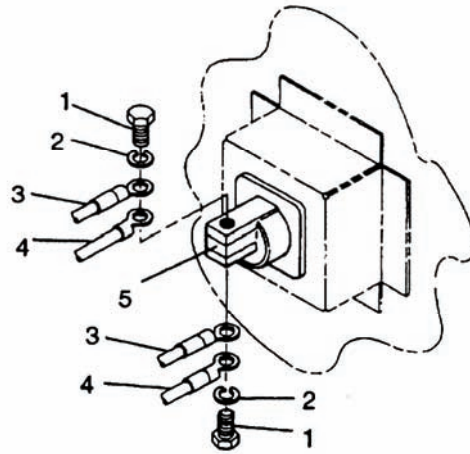
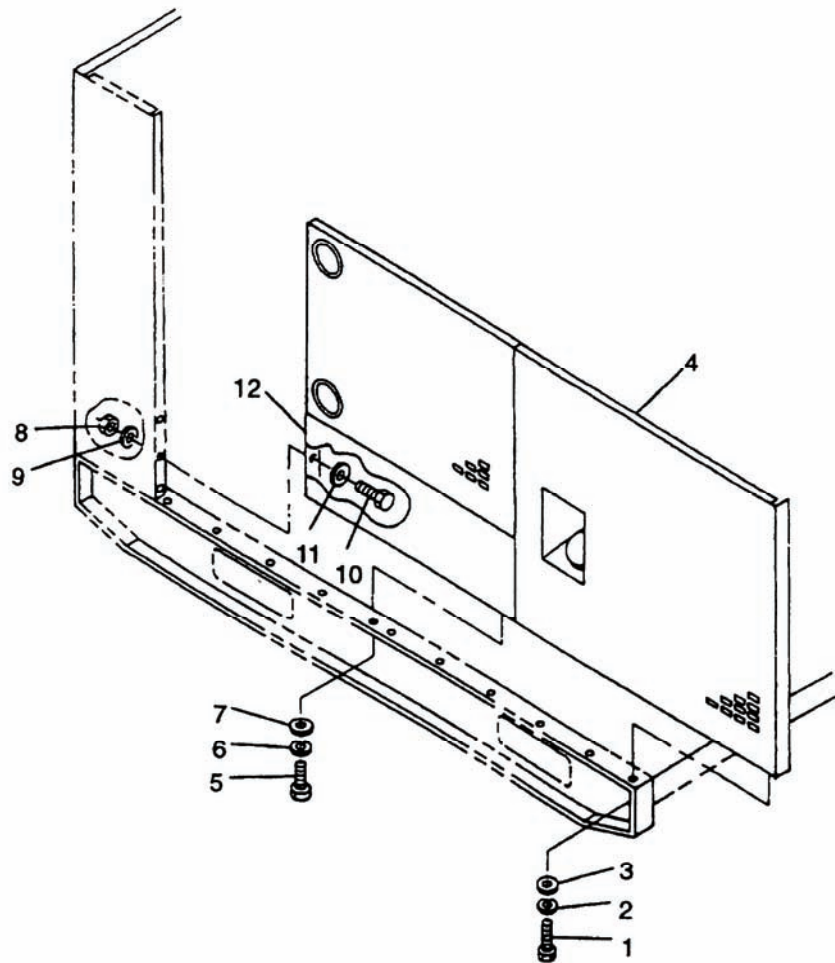
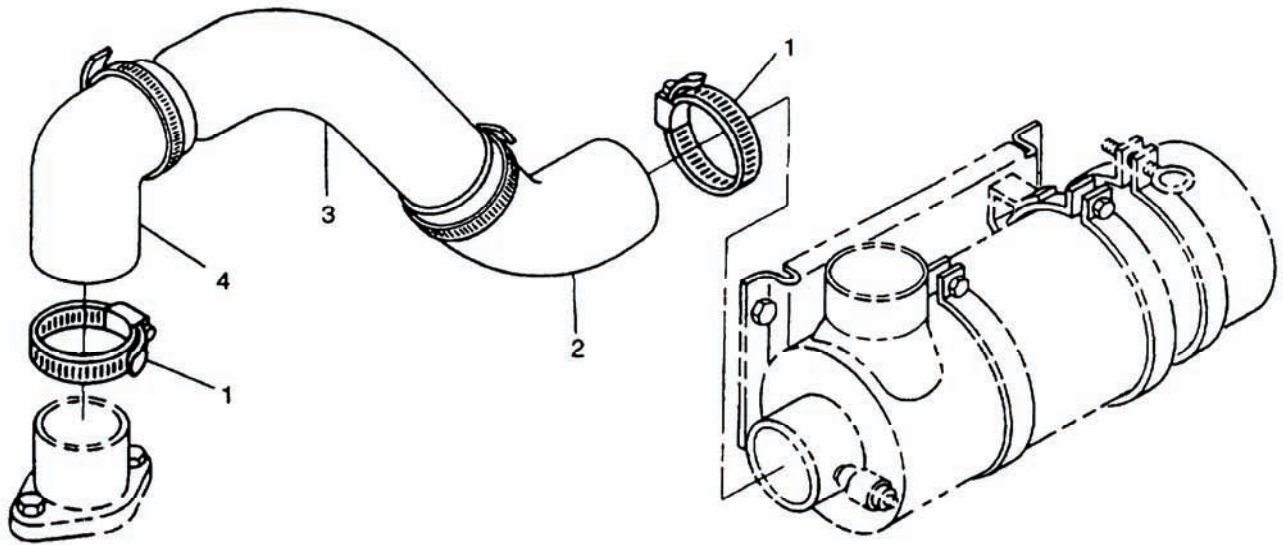

Figure 3-11. NATO Slave Receptacle.
Figure 3-12. Left Side Housing Panels.
Figure 3-13. Air Cleaner Assembly – MEP-804A/MEP-814A.
- ae. Remove bolts (1, Figure 3-11), lock washers (2), battery cables (3), and slave cables (4) from NATO slave receptacle (5). Discard lock washers (2).
- af. Remove bolts (1, Figure 3-12), lock washers (2), and washers (3) securing left rear side panel (4) to skid base. Discard lock washers (2).
- ag. Remove nuts (8), lock washers (6 and 9), washers (7 and 11), and bolts (5 and 10) securing lower left side panel (12) to front housing and skid base. Discard lock washers (6 and 9).
- ah. With aid of an assistant, remove left rear side panel (4) and lower left side panel (12) as an assembly.
- ai. Loosen clamps (1, Figure 3-13) and remove air intake hoses (2, 3, and 4) as an assembly.
- z. Position air intake hoses (2, 3, and 4, Figure 3-13) in generator set and tighten clamps (1).
- aa. With aid of an assistant, position left rear side housing panel (4, Figure 3-12) and lower side panel (12) on generator set.
- ab. Secure left rear side panel (4) to skid base with bolts (1), new lock washers (2), and washers (3).
- ac. Secure lower left side panel (12) to front housing and skid base with bolts (5 and 10), washers (7 and 11), new lock washers (6 and 9), and nuts (8).
- ad. Connect battery cables (3, Figure 3-11) and slave cables (4) to NATO slave receptacle (5) with bolts (1) and new lock washers (2).